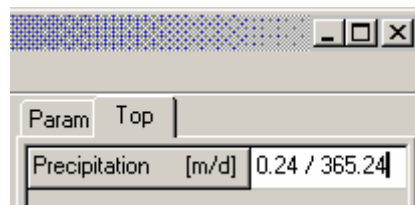

Figure 23: Top system tab
6. Click on the new "Top" tab to see the topsystem list. The data window will look similar to Figure 23:
7. Double-click on the value field next to "Precipitation [m/d]" and enter the daily precipitation. Type the formula $0.24 / 365.24$ (just leave the input at that, see Figure 23) and press the -button or F5 (All nodes). Remember, the annual precipitation was specified as 240 mm and we need to enter a daily value in meters.